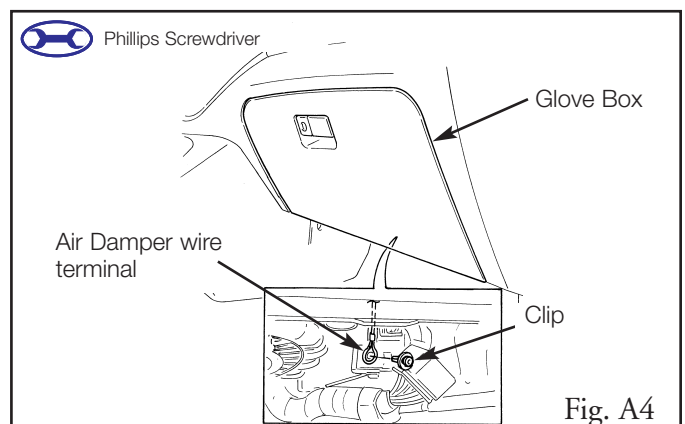

Fig. A4
4. Remove the air damper wire terminal from the bottom of the glove box. (Fig. A4)